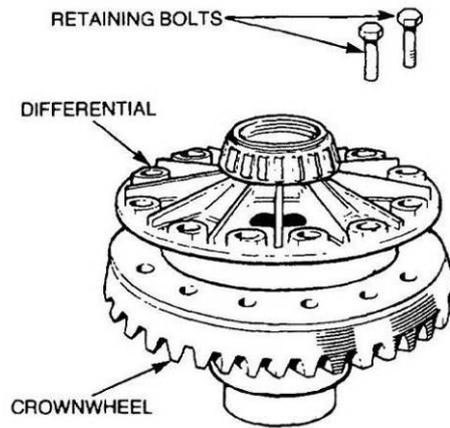

Figure 231 Removal of the Crownwheel
- a. Match mark the crownwheel and the differential, remove the bolts and remove the crownwheel (Figure 231).